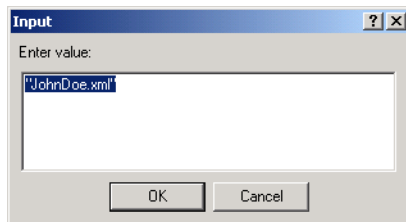

Figure 28-40. Using double-quotes, type your name in the Input dialog, then click **OK**.
- ③ The Input dialog appears. Using double-quotes, type some unique identifier, such as your name with an .xml extension. For example: "JohnDoe.xml". Compare your work to Figure 28-40, below.